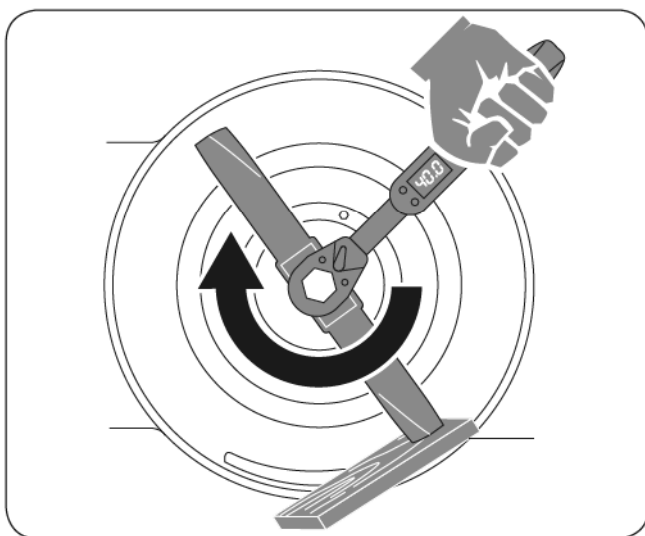

**Figure 22**
4. Remove the blade, saving all mounting hardware. Examine the blade support and blade bolt to see if there is damage. Examine the motor shaft to make sure that it is not bent. (See **Figure 22**)